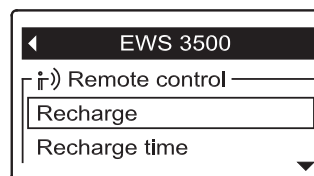

FIG. 129
2. Press the remote's SELECT (O) button to display the device menu (See Figure 129).